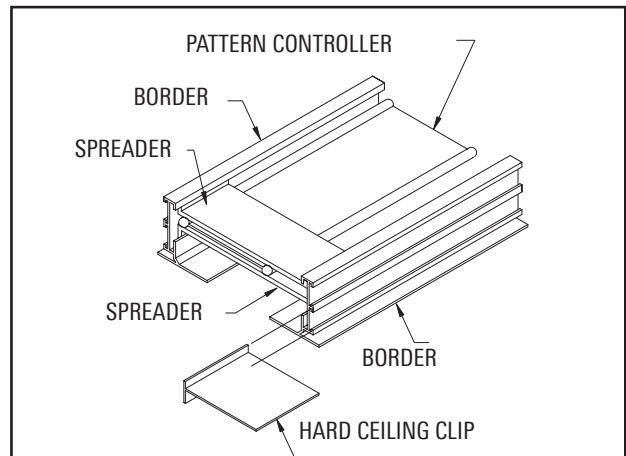

Figure 2. Installation of Hard Ceiling Clips
- ☐ Slide the Hard Ceiling Clips into the lower bosses of each frame rail as shown in Figure 2.